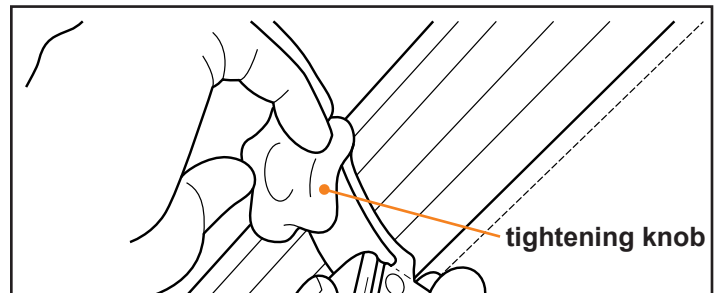

Fig.14
3. Remove the tightening knob from the Ground Support assembly (**Fig.14**). Remove the entire assembly from the roll tube.